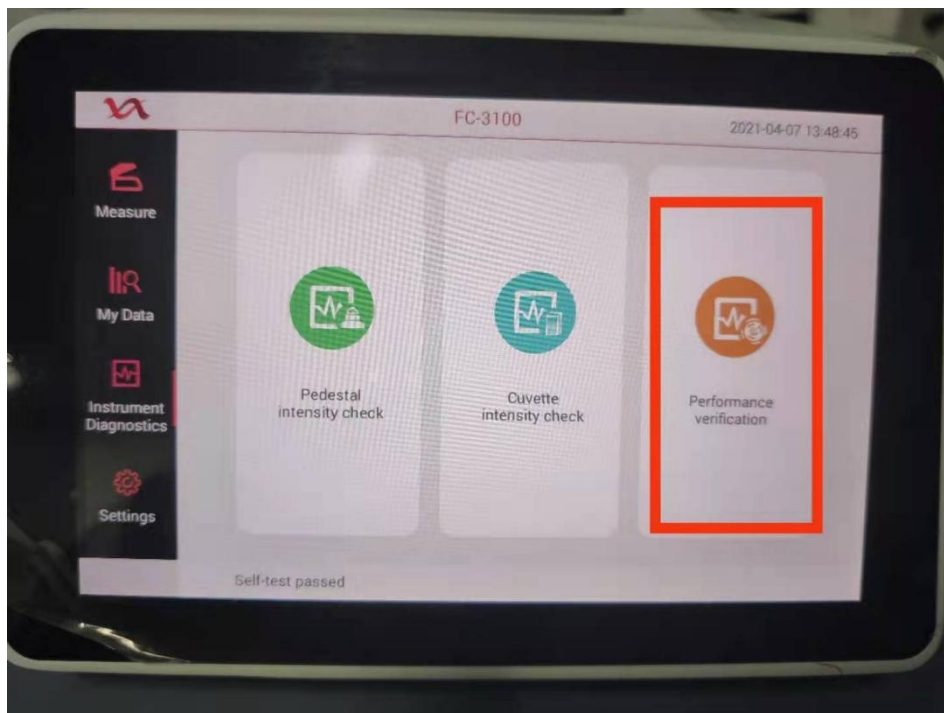

Figure.2
2. Select **Performance Verification**, as the Figure.2 shows.